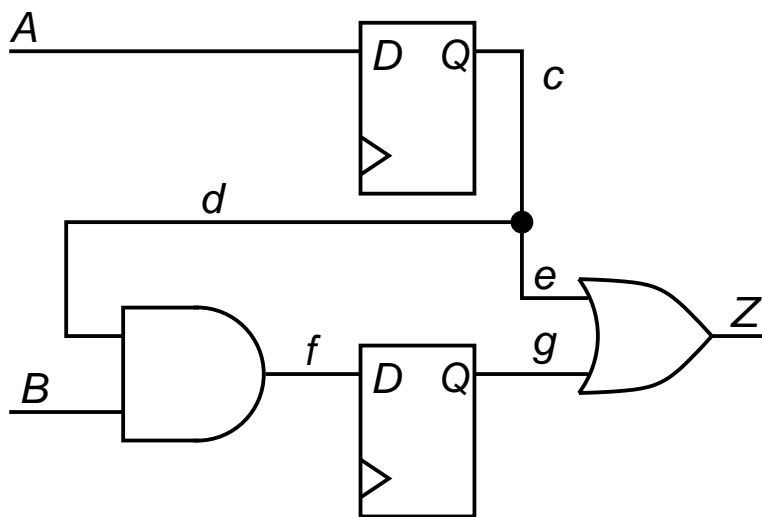

Figure 4: Circuit for Problem 14.19.
- 14.19 *Scan delay tests*. For the circuit in Figure 4, insert scan-hold flip-flops. Generate robust delay tests for all paths. Then, repeat the exercise in functional sequential mode (with no scan hardware). What is the difference in the outcome between the two cases?